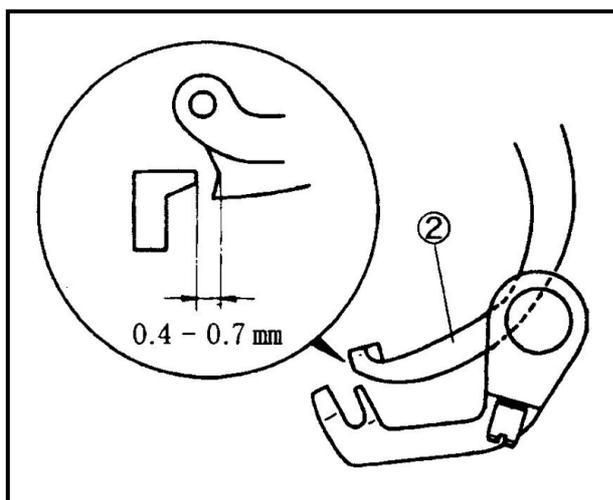

Fig.50
當大上勾針②和小上勾針①最接近時的間隙為 0.4-0.7mm。(Fig.50)
When the top cover thread hook② comes most nearly to the top cover thread carrier③, make the clearance between them to 0.4-0.7 mm during one rotation. (Fig.50)